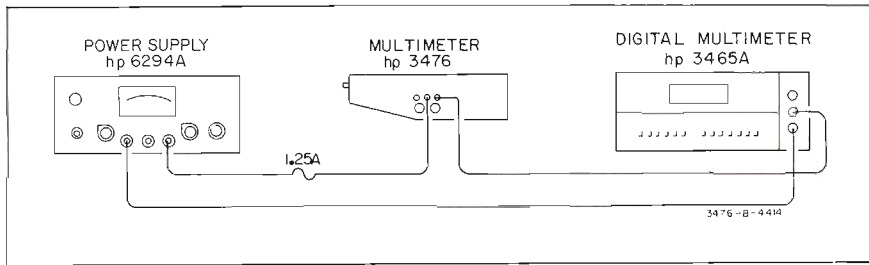

Figure 5-1. DC Ammeter Accuracy Test.
- a. Connect the equipment as shown in Figure 5-1.